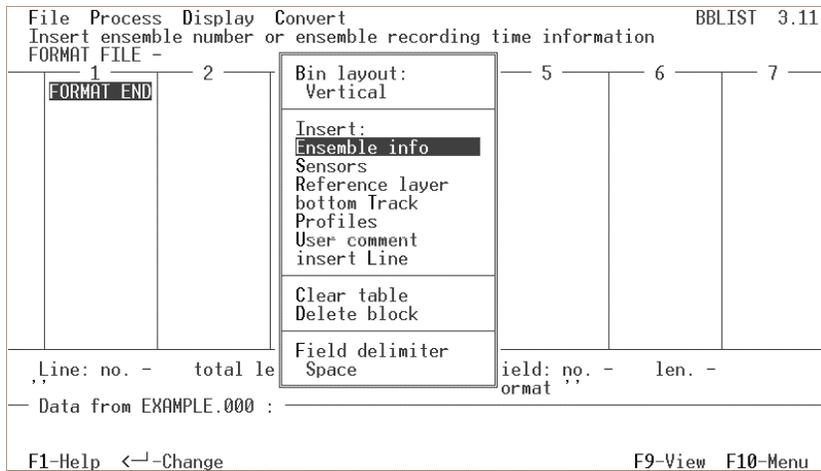

Figure 25. Define Format Selection Menu
- a. Select CONVERT, DEFINE FORMAT. When you first enter this screen, *BBLIST* displays only a FORMAT END marker. To begin entering data fields, press e to display the DEFINE FORMAT selection menu (Figure 25). If you make a mistake, select delete block and re-enter your choice.